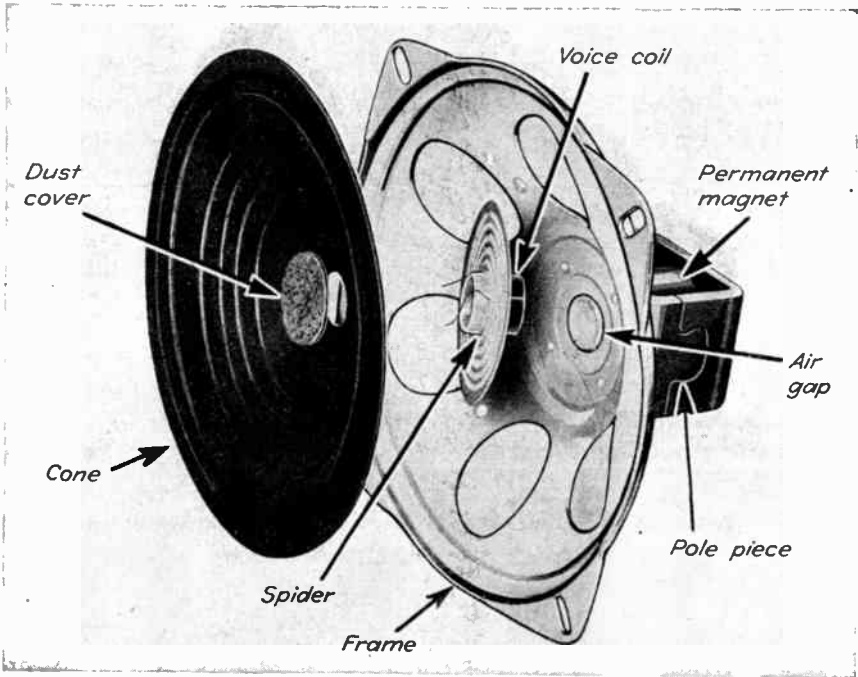

Fig. 3. How a typical modern speaker looks when taken apart for repair. (Cletron photo)
**Cone and Voice-coil Troubles.** The complete cone assembly of a typical speaker is shown in Fig. 3, along with the speaker frame into which this assembly fits. The cone is made from stiff paper and is attached to the speaker frame only around its outer edge. The cone is always fastened at its rim with a special type of cement that can be loosened with acetone or a similar cement solvent, since speaker repairs sometimes involve removing and replacing the entire cone without damaging it.
**Types of Spiders.** In practically all speakers made since about 1940, the spider is a springy corrugated paper washer outside the voice coil, like that in Fig. 3. This corrugated external spider is either cemented directly to a circular portion of the speaker frame or is fastened to the frame with two screws that permit recentering.